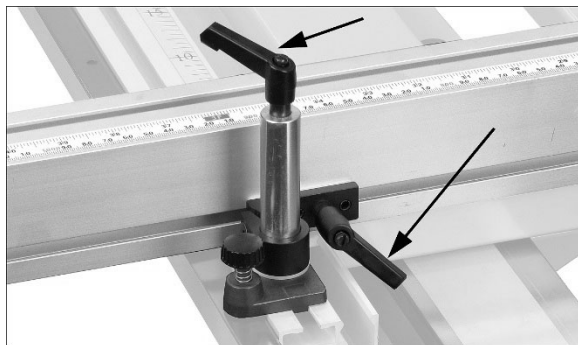

Figure 8-5
4. If square is not flush, loosen both handles on angle clamp (Figure 8-5) and slide end of fence to a position where square sits flush.
4. Slide table until fence is near blade. Place a machinist square against fence and side of raised blade, as was done in Figure 8-5.